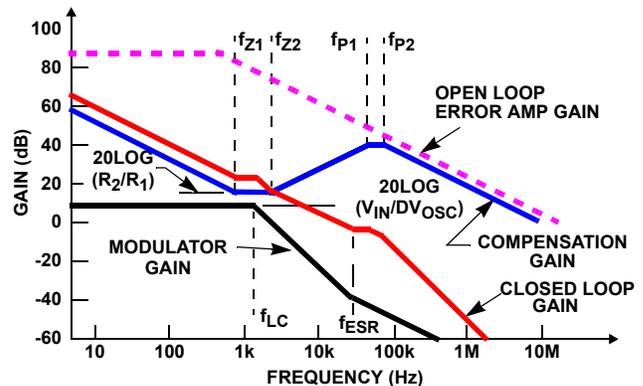

FIGURE 59. ASYMPTOTIC BODE PLOT OF CONVERTER GAIN
Figure 59 shows an asymptotic plot of the DC/DC converter's gain vs frequency. The actual modulator gain has a high gain peak due to the high Q factor of the output filter and is not shown in **Figure 59**. Using the guidelines provided should give a compensation gain similar to the curve plotted. The open-loop error amplifier gain bounds the compensation gain. Check the compensation gain at f_{P2} with the capabilities of the error amplifier. The closed-loop gain is constructed on the graph of **Figure 59** by adding the modulator gain (in dB) to the compensation gain (in dB). This is equivalent to multiplying the modulator transfer function to the compensation transfer function and plotting the gain. The compensation gain uses external impedance networks Z_{FB} and Z_{IN} to provide a stable, high bandwidth (BW) overall loop. A stable control loop has a gain crossing with -20dB/decade slope and a phase margin greater than $+45^\circ$. Include worst case component variations when determining phase margin. A more detailed explanation of voltage mode control of a buck regulator can be found in Tech Brief **TB417**, entitled "Designing Stable Compensation Networks for Single Phase Voltage Mode Buck Regulators".